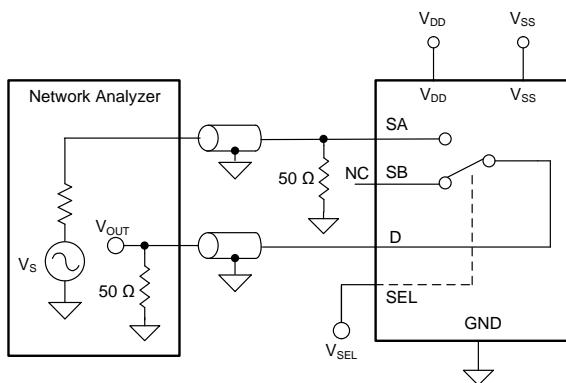

图 25. Off Isolation Measurement Setup
Off isolation is defined as the voltage at the drain pin (D) of the TMUX6119 when a 1-V_{RMS} signal is applied to the source pin (SA or SB) of an off-channel. 图 25 shows the setup used to measure off isolation. Use 公式 2 to compute off isolation.